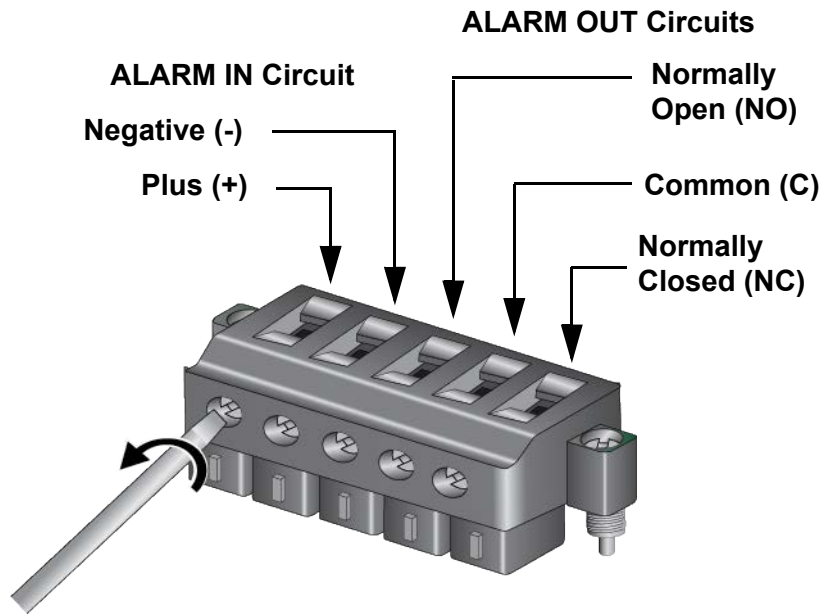

Figure 58. Loosening the Wire Retaining Screws on the ALARM IN / ALARM OUT Plug
- Use a #1 screwdriver to loosen the wire retaining screws that correspond to the connector pins of the selected ALARM IN and ALARM OUT circuits. Refer to Figure 58.